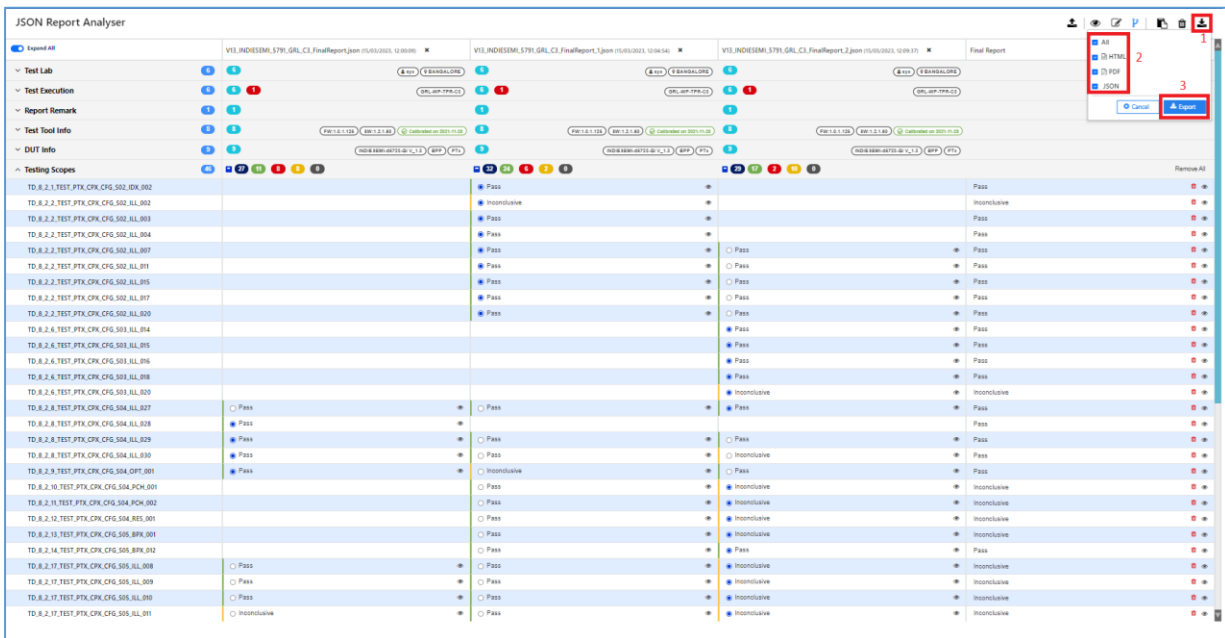

FIGURE 8.92: DOWNLOAD/EXPORT JSON REPORT FILES
1. Click on the Download icon  at the top right of the JSON Report Analyzer screen as shown in Figure 8.92 below.